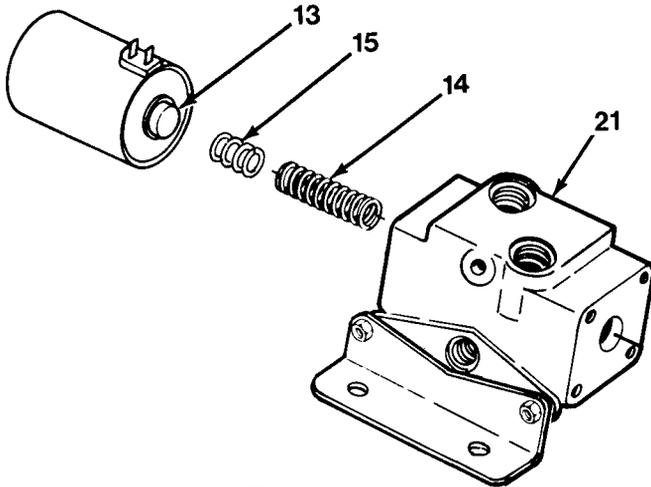
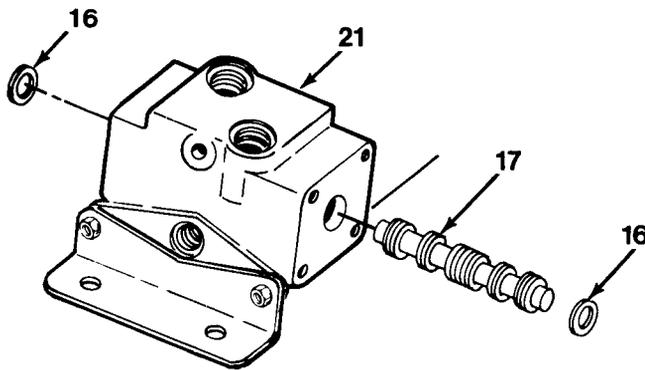

Figure 13-4
Figure 13-5
4. Remove two tubes (13) and springs (14, Figure 13-4).
5. Remove and discard four seals (15) from tubes (13).
6. Remove two retaining washers (16) and spool (17) from body (21, Figure 13-5).
2. Coat spool (17) with clean hydraulic oil and install spool (17) and two retaining washers (16) to body (21, Figure 13-5).
3. Install four new seals (15) on two tubes (13, Figure 13-4).
4. Install two springs (14) and tubes (13) to body (21).